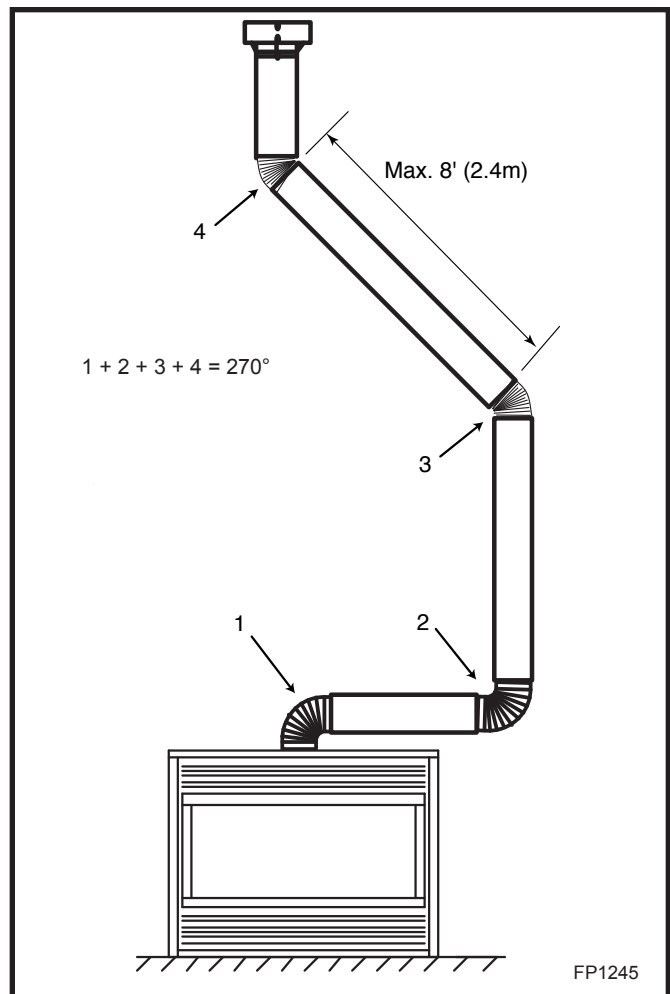

Fig. 29 Typical offset application.
- Two sets of 45° elbows offsets within these vertical installations. From 0 to a maximum of 8' (2.4 m) of vent pipe can be used between elbows. (Fig. 29)